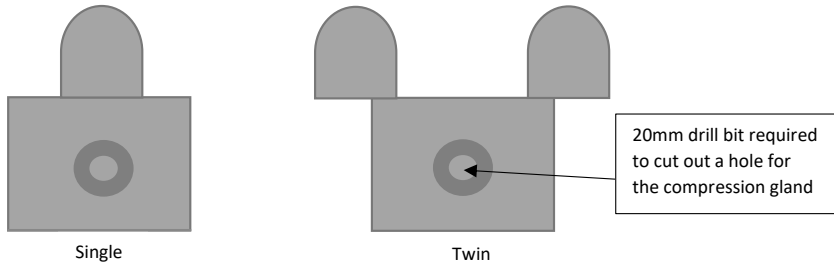

Fig 3 End cap
- The end cap can be drilled out (20mm drill bit) and a 20mm compression gland (not included) can be used (see Fig 3) to gain access to the terminal connector